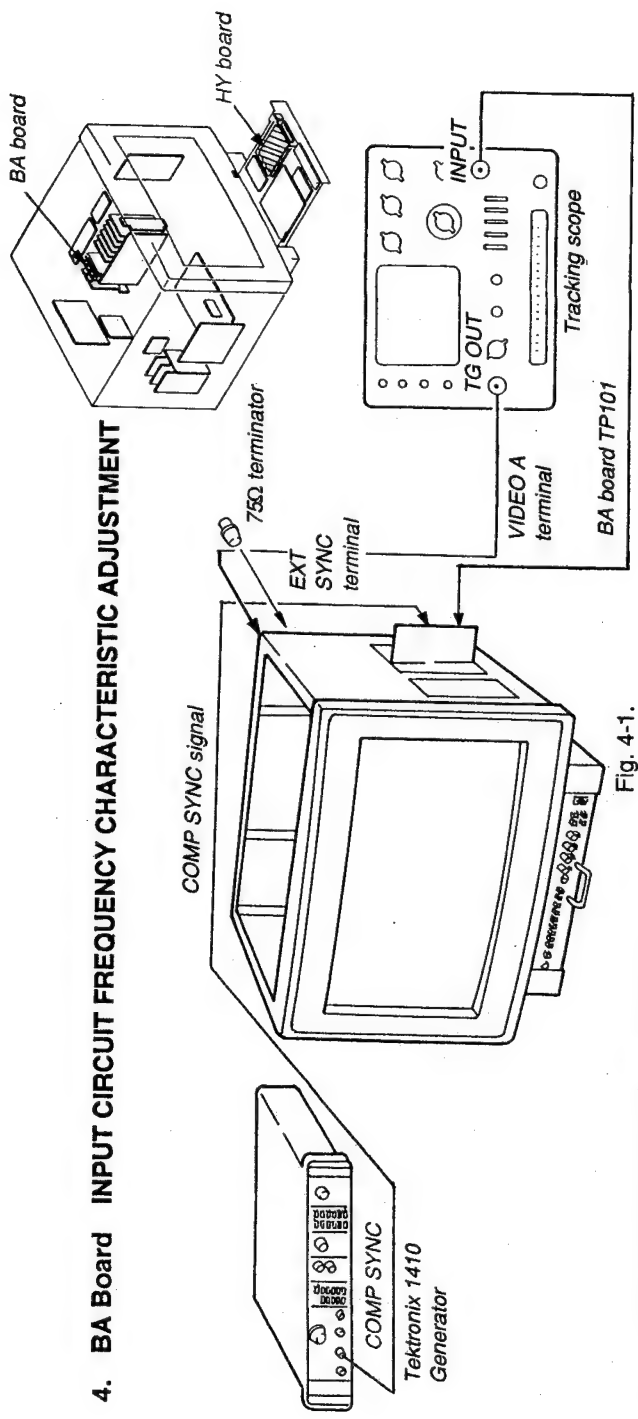

Fig. 4-1.
1. Complete the connection as shown in Fig. 4-1.